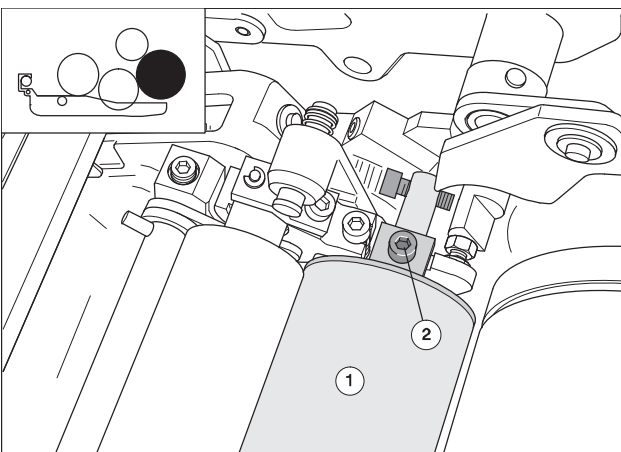

Fig. 27 Removing the dampening form roller
3. Unscrew the Allen screw (Fig. 27/2) in the shaft of the dampening form roller on D.S. and O.S. with the operator tool; the screw remains in the cap. The screw, cap and spring remain at the shaft of the dampening form roller.
4. Lift the dampening form roller (Fig. 27/1) at the roller shaft out of the bearing shells.